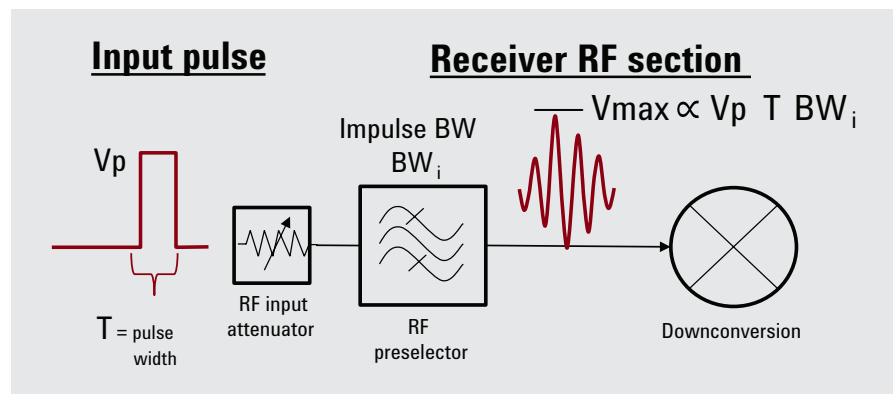

Figure 3. Preselector impulse bandwidth limits impulse input voltage to receiver downconversion chain
The purpose of RF and microwave preselector filters is to reduce impulsive broadband energy to the first mixer, improving overload levels and measurement dynamic range when measuring impulsive signals (Figure 3). For a given impulse, the maximum signal level passing through the filter is proportional to the amplitude of the pulse (V), the duration of the pulse (T), and the impulse bandwidth (BW_i) of the filter.